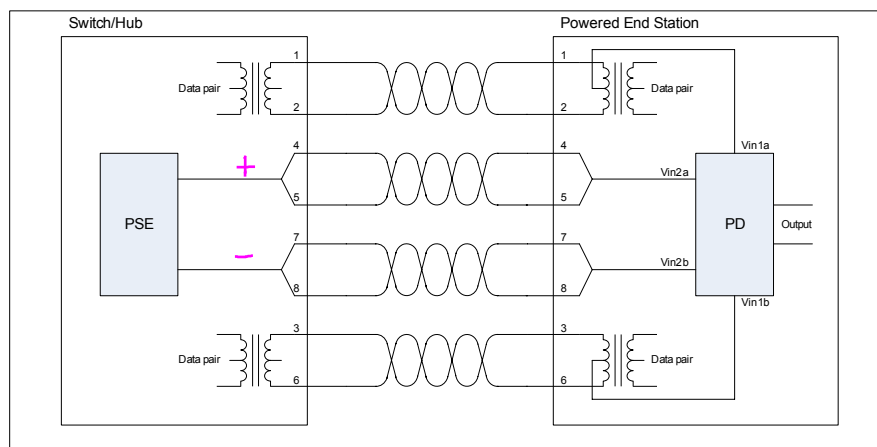
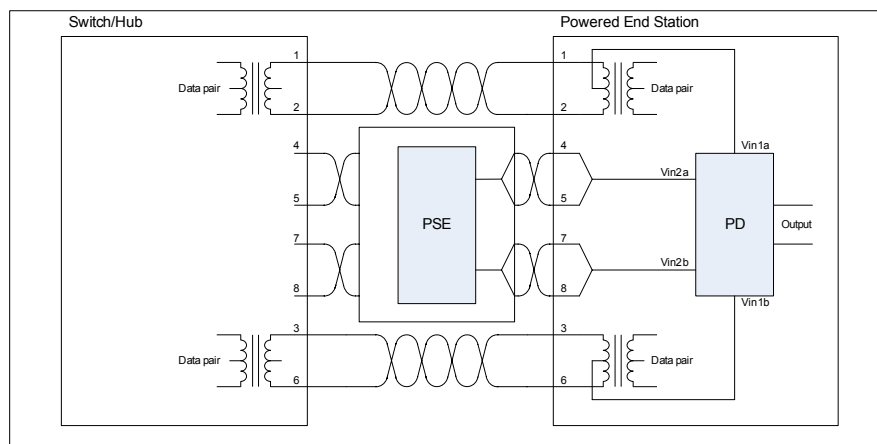

Figure 3: Endpoint PSE, Alternate B
Figure 4: Midspan PSE, Alternate B
The other alternative methods detailed in the IEEE specification are shown in Figure 3 and Figure 4. Where the power is supplied by the PSE over the Power Interface (PI), or the spare pairs in 10BASE-T and 100BASE-T networks.
In Figure 3 and Figure 4 the IEEE specification states that the PSE positive must be connected to 4 & 5 and the negative connected to 7 & 8. So if the polarity is fixed does the Vin2 input to the PD require a bridge rectifier? It doesn't need a full bridge rectifier but it would be worth putting two diodes in-line to match the way the Signature circuit responds to either input method.